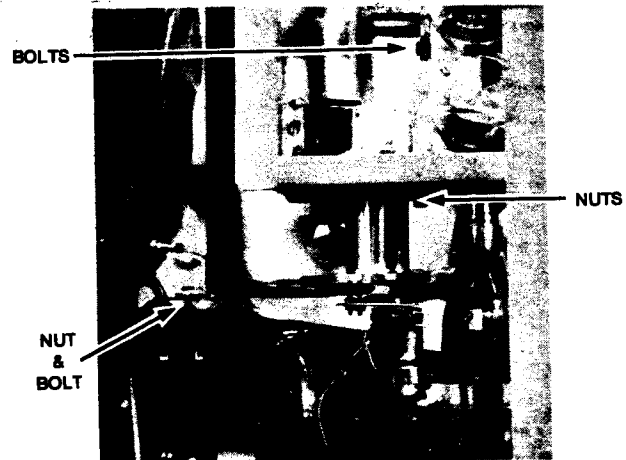

Figure 6-13. Preparing to Remove Cold Trap Housing
2. Using the 7/16-inch open-end wrench, remove the two bolts securing the trap housing to the rear of the valve block, and the nut and bolt securing it to the bracket near the forepump. Remove nuts under the pump valve flange (Figure 6-13).